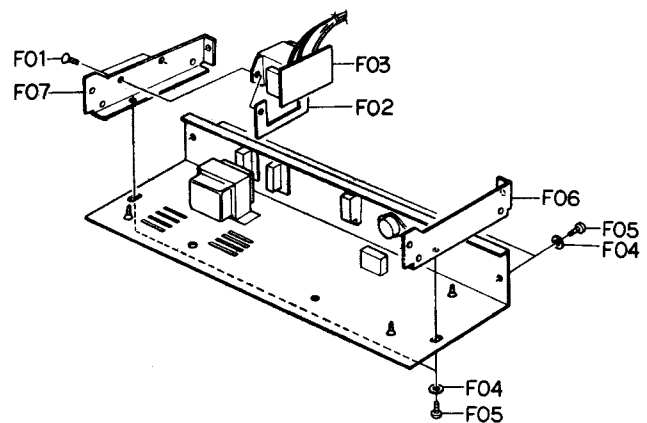

Fig. 3.5
Refer to Fig. 3.5. Remove Top Cover and Front Mechanism Ass'y referring to item 3.1. Remove F01 and F02, then F03 (Relay P.C.B. Ass'y). Remove F04 and F05, then F06 (Side Chassis R) and F07 (Side Chassis L).